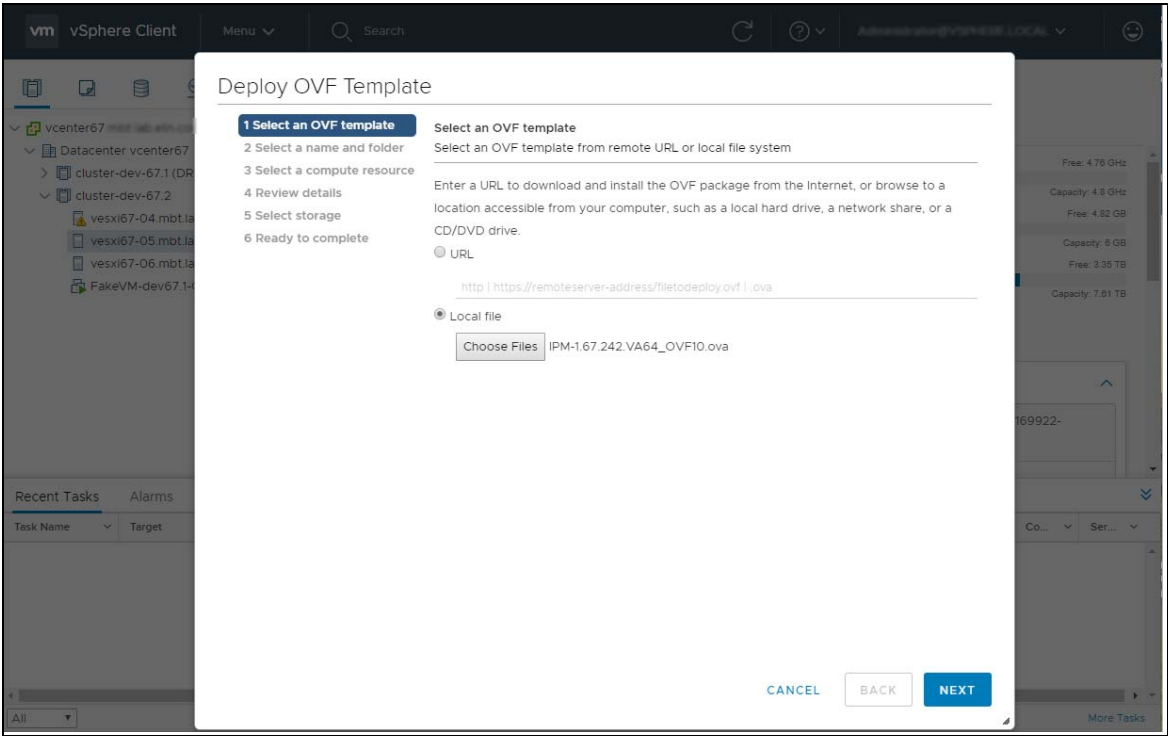
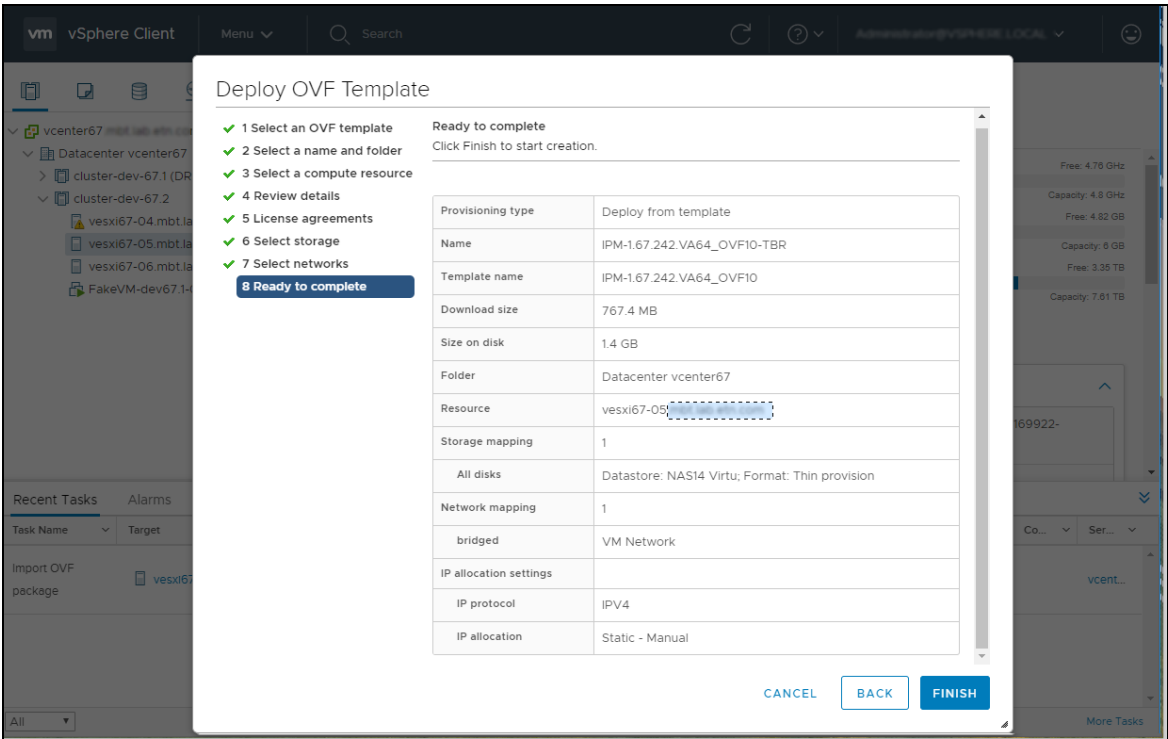

Figure 225. Deploy OVF Template
Figure 226. Deploy OVF Template
4. Choose **File > Deploy OVF Template** (see Figure 225).
8. Follow the instructions provided on the Deploy OVF Template (see Figure 225 and Figure 226).